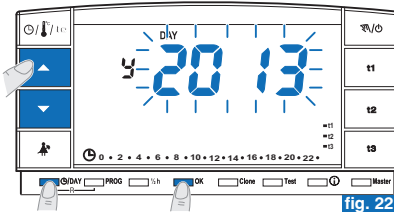

fig. 22
- Keep key "☉/DAY" pressed for approx. 4 seconds until the year (4) blinks on the display.
- Use the ▲▼ keys to change the year (if necessary) (fig. 22). Pressing repeatedly increases or decreases the time by one year and keeping the key pressed activates the rapid scroll.